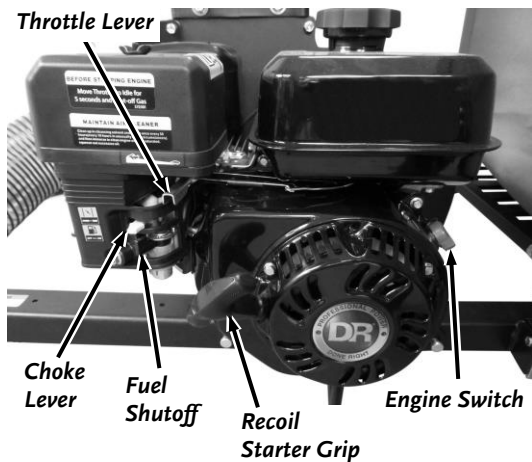

Figure 65
1. When starting a cold Engine; push the Choke Control lever to the left (CHOKE) position and the Throttle Control lever to the far left (rabbit) position (Figure 65). If re-starting a warm Engine, leave the Choke in the (RUN) position.